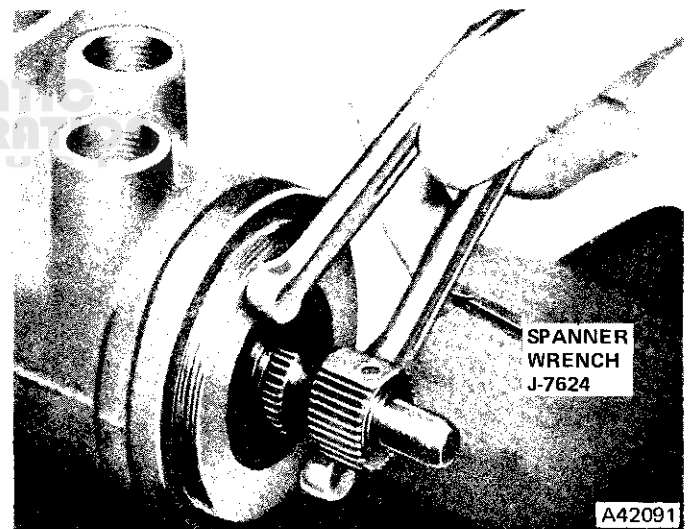

Fig. 2L-16 Adjuster Plug Removal
- (c) Remove rack piston and arbor tool as assembly (fig. 2L-15).
- (16) Remove adjuster plug locknut using brass drift and hammer.